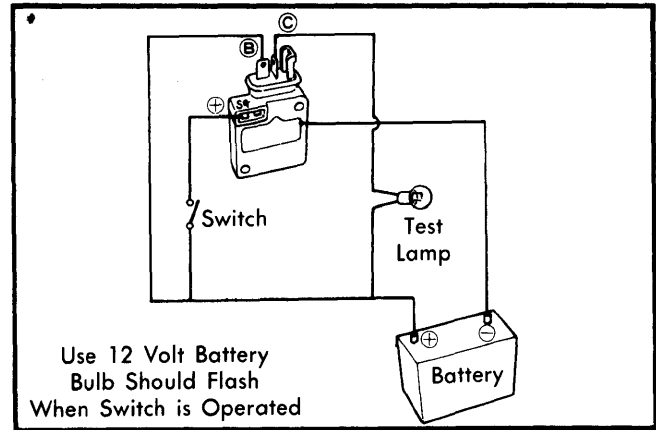

Fig. 5 Test Lamp Hookup for Checking Ignitor Operation — Bulbs Should Flash
1) Remove ignitor from distributor base. Make a circuit as shown in Fig. 5 with wire and a test bulb. Use 12 volts and a bulb of less than 10 watts.